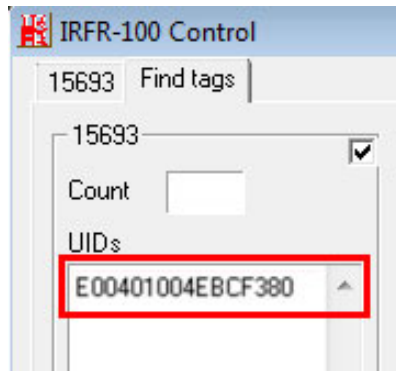

Figure 3-23: IRFR – UIDs
Step 6: Place an RFID card near the RFID reader  on the bottom left corner of the front panel (**Figure 1-2**) then remove it. The card number will be shown in the UIDs column (**Figure 3-23**).